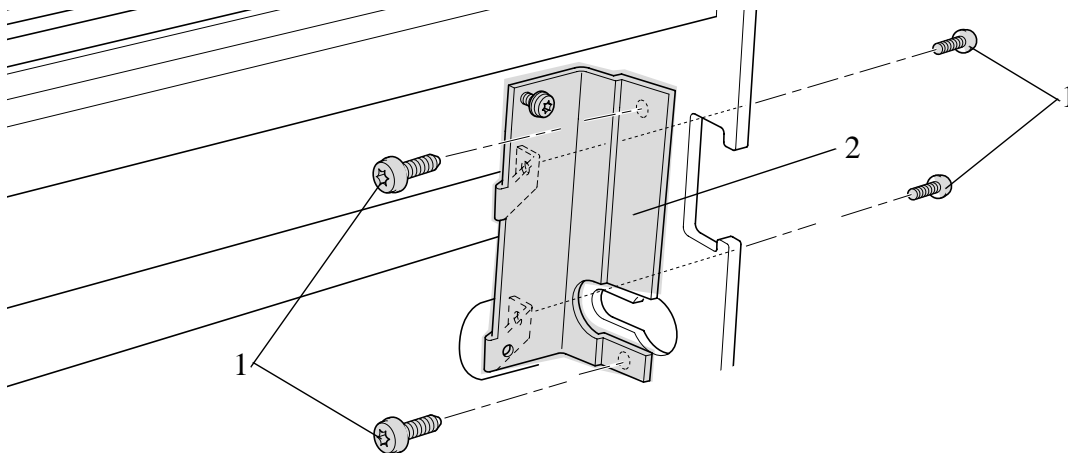

Figure 74: Right Electronic Module Mount
5. Remove the four T-15 screws (item 1) securing the right hand electronic module mount (item 2) to the right hand side chassis (refer to Figure 74).